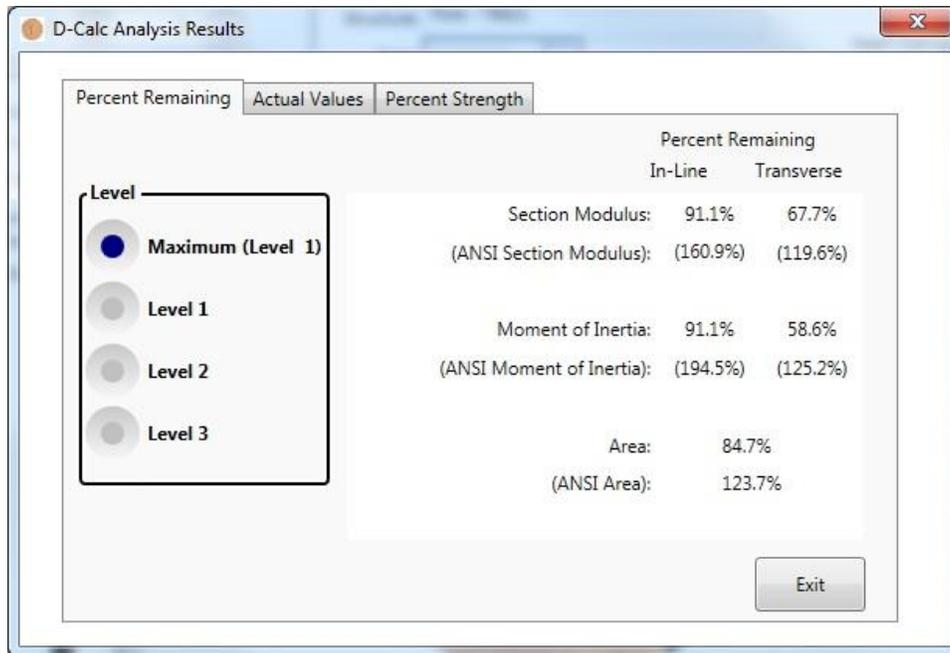

Figure 5-1. Example of "Percent Remaining" Tab in Results Window
- **Percent Remaining** of Section Modulus, Moment of Inertia, and Area (Figure 5-1)